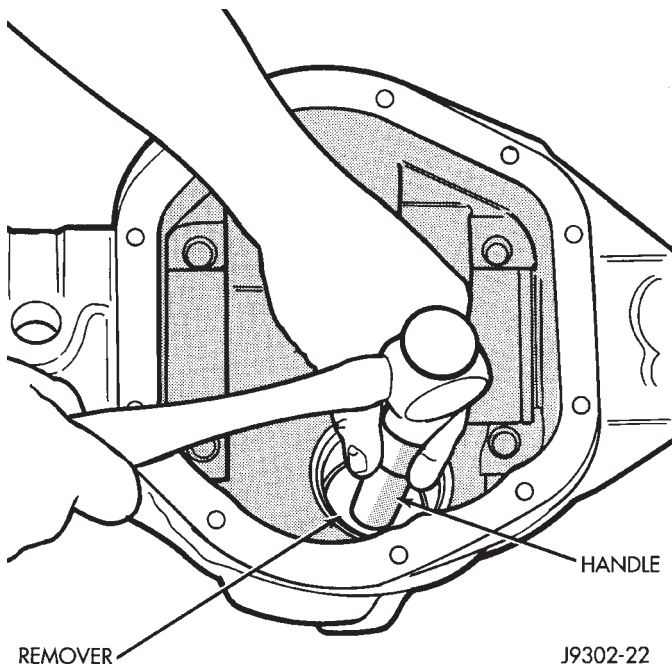

Fig. 47 Front Bearing Cup Removal
(7) Remove the pinion seal with a slide hammer or pry out with bar.
(8) Remove oil slinger, if equipped, and the front pinion bearing.
(9) Remove the front pinion bearing cup with Remover D-103 and Handle C-4171 (Fig. 47).